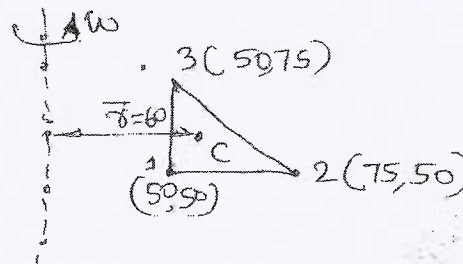

Fig.Q9(b)
- b. For the element of an axisymmetric body rotating with constant angular velocity  $W = 1000$  rev/min as shown in Fig.Q9(b). Determine the body force vector including weight of material with specific density is  $7850 \text{ kg/m}^3$ . (08 Marks)